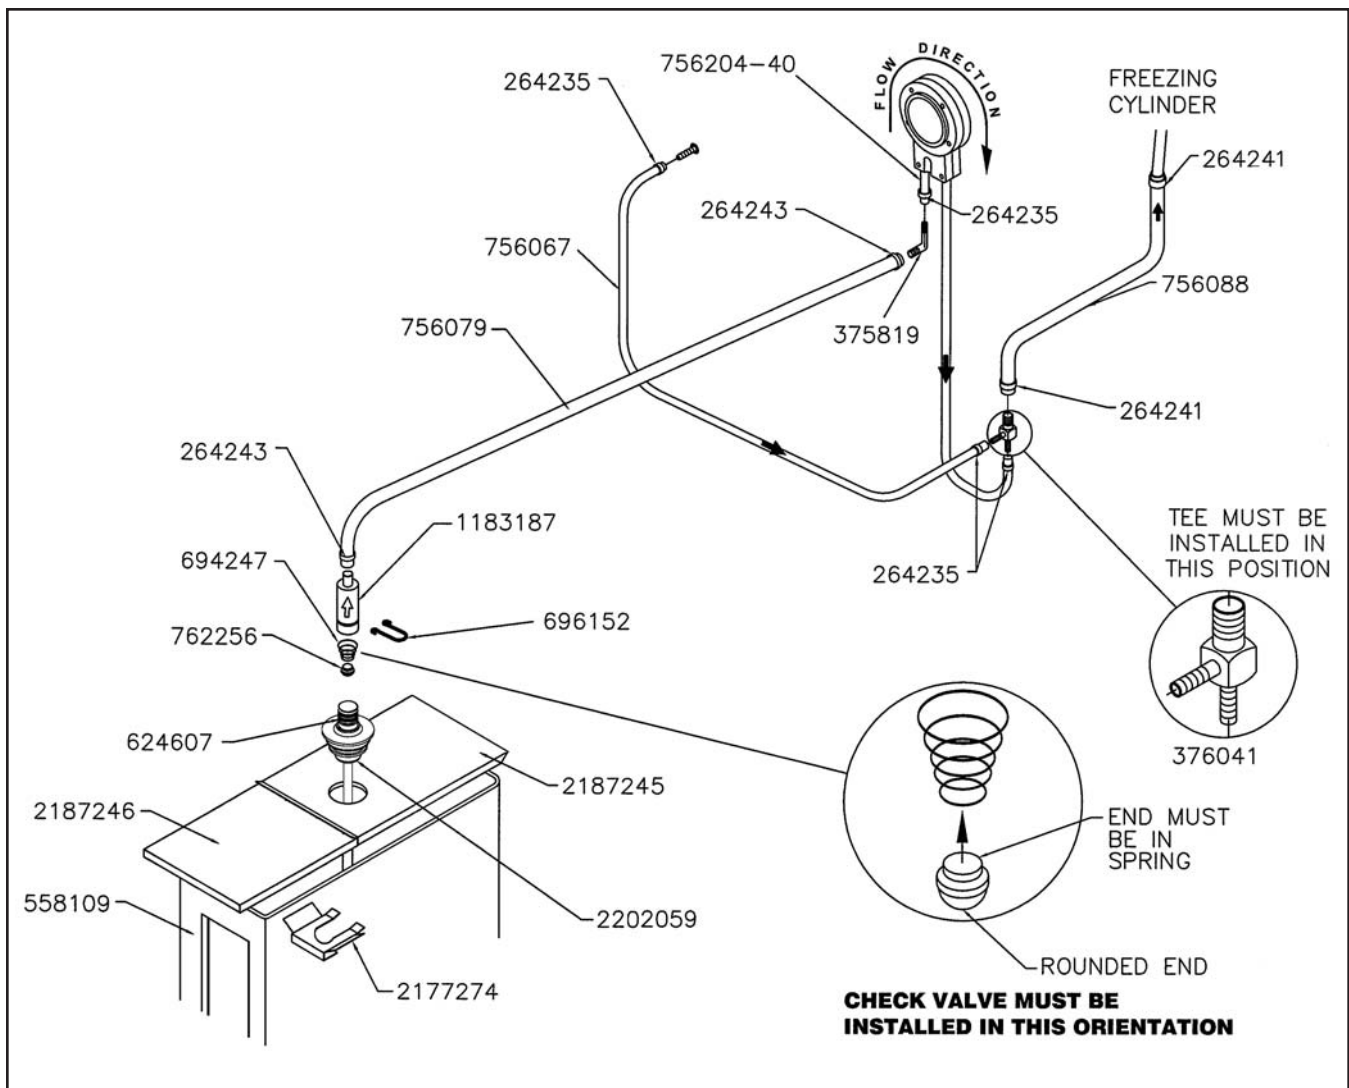

Figure 2-3 Mix Pump Connections for Standard Mix Container
10. Connect the free end of the mix pump hose to the 3-way Tee (Fig. 2-3). When all connections are complete, the 3-way Tee must be lower than the black pump housing.
3. Connect the elbow fitting to the free end of the tubing. Connect the opposite end of the elbow to 1/4" ID tan tubing on the left side of the pump head. Secure with hose clamps (Fig. 2-3).